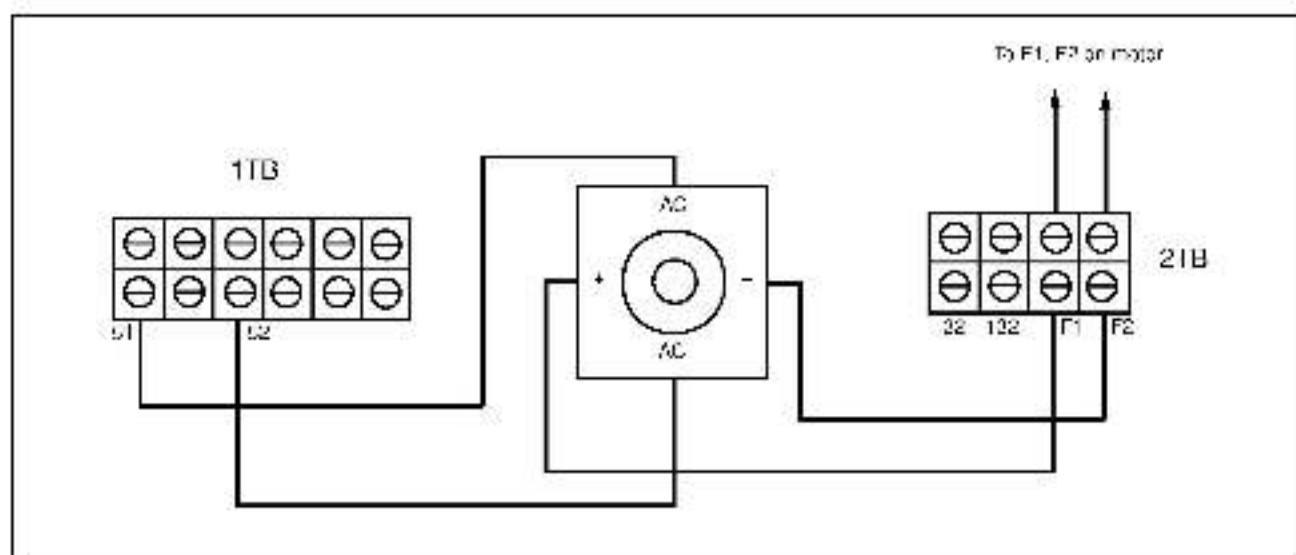
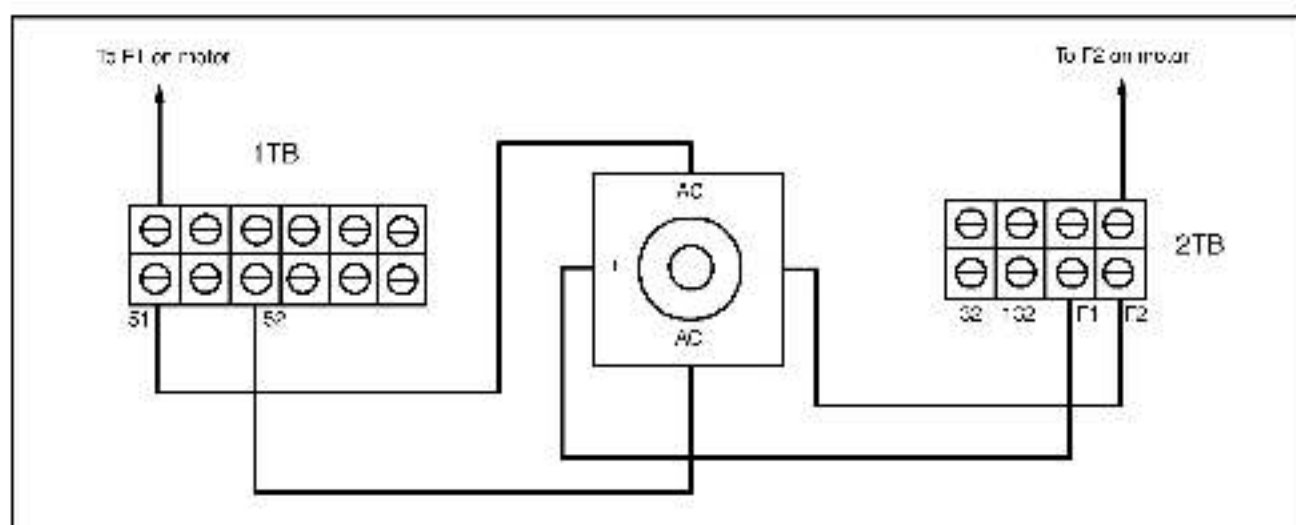

Figure 1 – Connecting the Field Supply (Full-Wave)
Figure 2 – Connecting the Field Supply (Half-Wave)
- Step 9. Disconnect the two wires from old terminal block 32/132. Connect them to terminals 32 and 132, respectively, on new terminal block 2TB, as shown in figure 1 (full-wave supplies) and figure 2 (half-wave supplies). Discard the old terminal block.
- Step 10. Connect wire harness 51/52 to terminal block 1TB. Connect wires F1 and F2 from the Field Supply to terminal block 2TB on the Field Supply mounting bracket. Refer to figure 1 or 2.
- Step 12. **For a full-wave supply**, connect the motor field wires to terminals F1 and F2 on Field Supply terminal block 2TB. See figure 1.
For a **half-wave supply**, connect motor lead F1 to terminal 51 on 1TB and motor lead F2 to terminal 52 on 2TB. See figure 2.